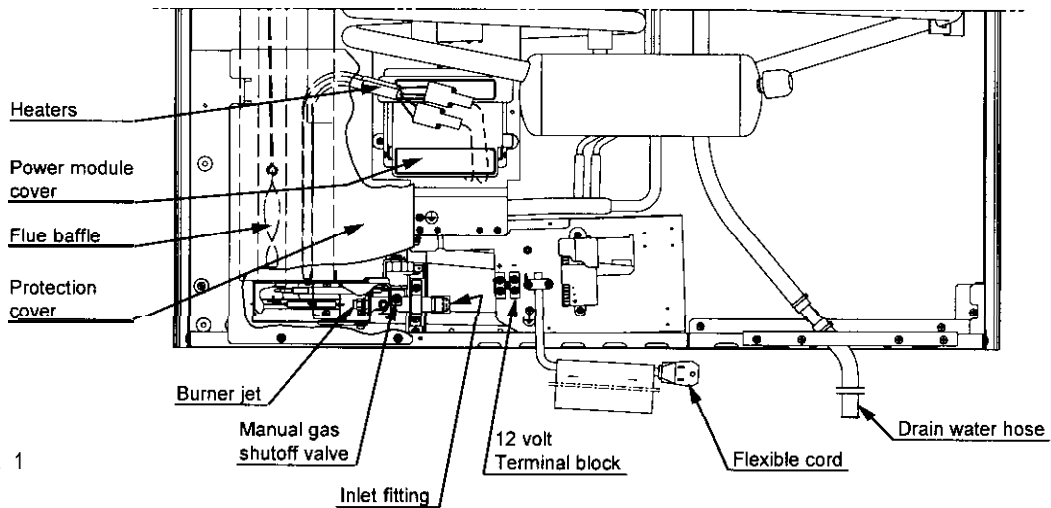

FIG. 1
The refrigerator model NDR 1292-S require a continuous 12 volt DC supply (even though 2-way models are designed to operate on 120 volts AC and gas, a 12 volt DC control is required to maintain the automatic energy system). The connection is made to the positive (+) and negative (-) terminals of the terminal block on the back of the refrigerator. (See FIG. 1). Correct polarity must be observed when connecting to the DC supply.
2. Check that the gas flame is lit and the GAS mode indicator lamp (C) is on.
3. Close the manual gas shutoff valve at the back of the refrigerator. (See FIG. 1).
4. Wait for one minute. The CHECK indicator lamp (D) should be on and the GAS mode indicator lamp (C) should be off.
5. Remove protection cover (see FIG. 1) and open the manual gas shutoff valve. Do not change any button positions on the control panel. Apply a non-corrosive commercial bubble solution to the burner jet orifice.
7. If no bubbles were present at the burner jet orifice, it should be rinsed with fresh water. Be careful not to damage the burner jet orifice. Replace cover and press the main power ON/OFF button (1) OFF and back ON. Normal operation of the burner should return. Allow the burner to operate for a minimum of five minutes.